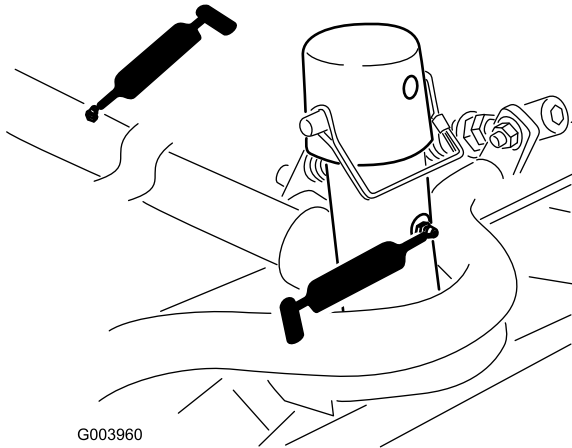

Figure 53
- Cutting unit carrier frame and pivot (2 each) (Figure 53)